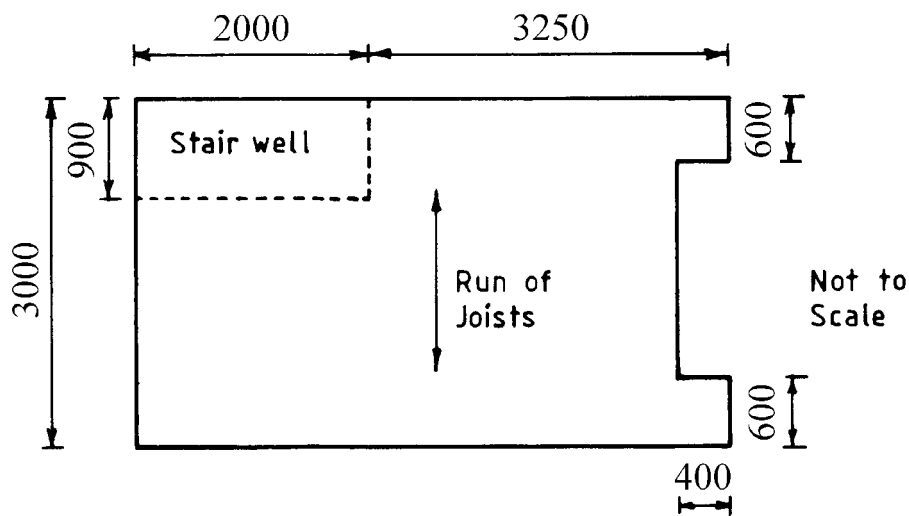

Fig. 3
8. (a) To a scale of 1:20 draw the first floor plan to the dimensions shown in figure 3, to include first floor joists at 400 centres and trimming, indicating names of members and timber sizes.